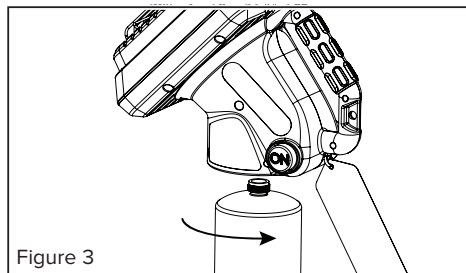

Figure 3
- Screw the 1-lb. disposable LP-gas cylinder clockwise (from bottom) into unit until hand-tight; see Figure 3. DO NOT use thread sealant on this connection.